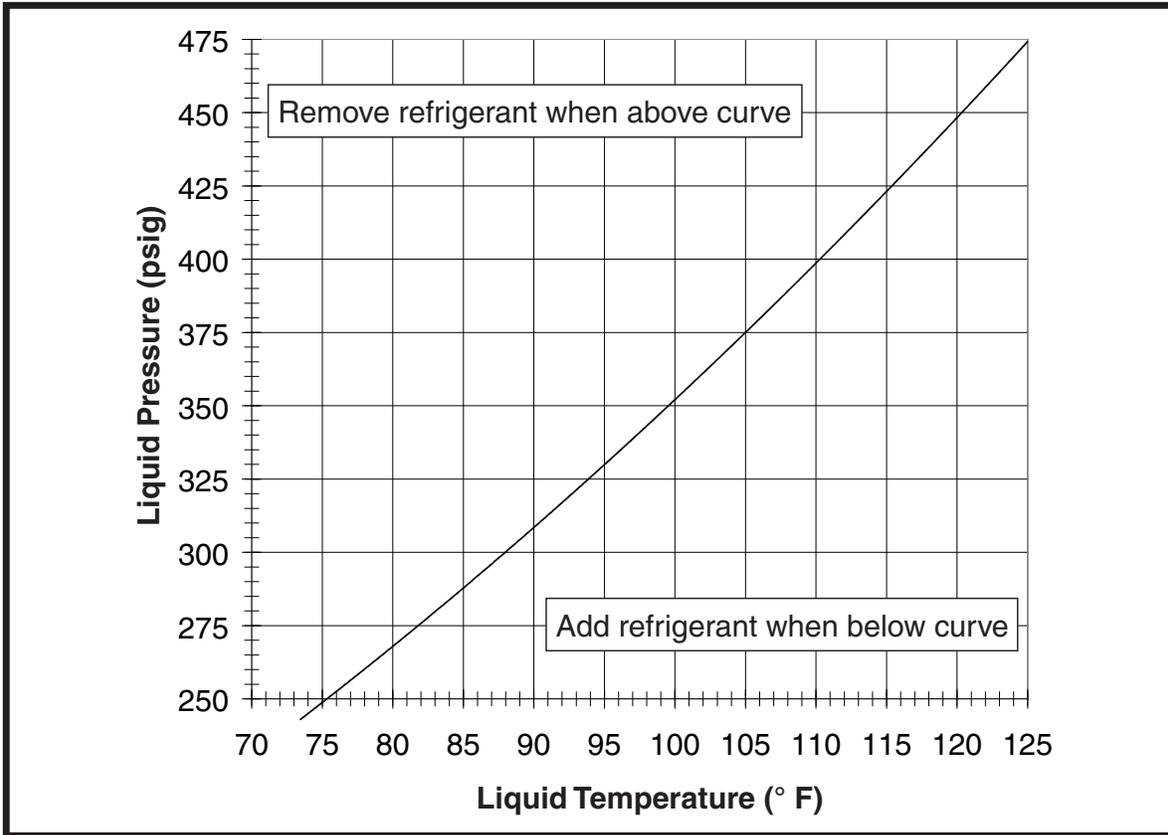

Figure 4. Charging Chart for 2 Ton Units
3. For the temperature measured, determine the required liquid refrigerant pressure from the appropriate charging charts in Figures 4 - 7 (pages 14 & 15).